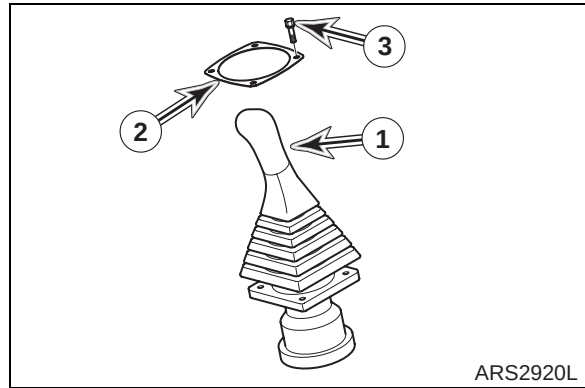

Figure 39
1. Connect hoses as tagged during removal to remote control valve RH (1, Figure 39).
2. Position remote control valve RH (1, Figure 39) on control stand and install four bolts and washers (3) and cover (2).